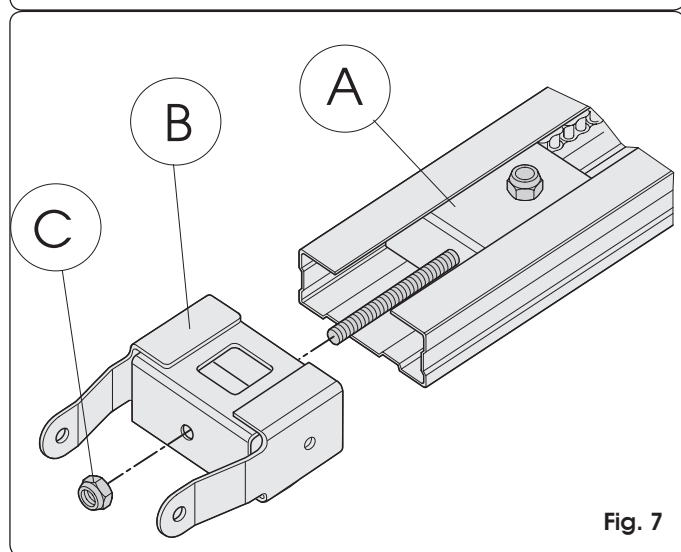

Fig. 7
- 2) Slide the transmission unit (Fig. 7 ref. A) along the whole sliding guide, until it is near the front terminal, the one opposite the drive coupling.
- 3) Assemble the front fitting (Fig. 7 ref. B) to the transmission unit (Fig. 7 ref. A).
- 4) Apply slight tension to the chain, tightening the nut (Fig. 7 ref. C).